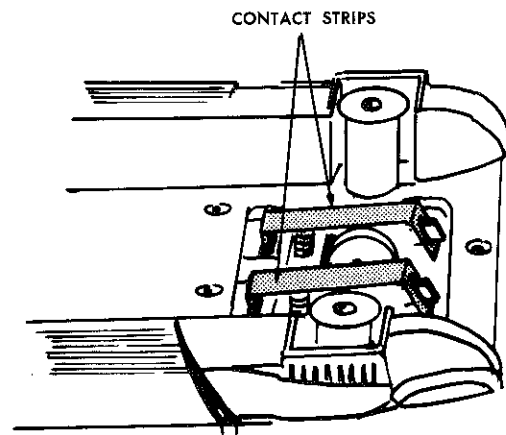

FIGURE 18
(4) If the trouble seems to be in the locomotive, check it by touching two wires connected to the power pack to the main contact strips on the locomotive bottom, then to the two brass eyelets. (Fig. 18) If the locomotive driving wheel turns slowly or not at all, the locomotive motor may be worn out and will have to be replaced, as explained in the next section.
(5) If the trouble seems to be in the power pack return it to Remco Service Department for repair or replacement.